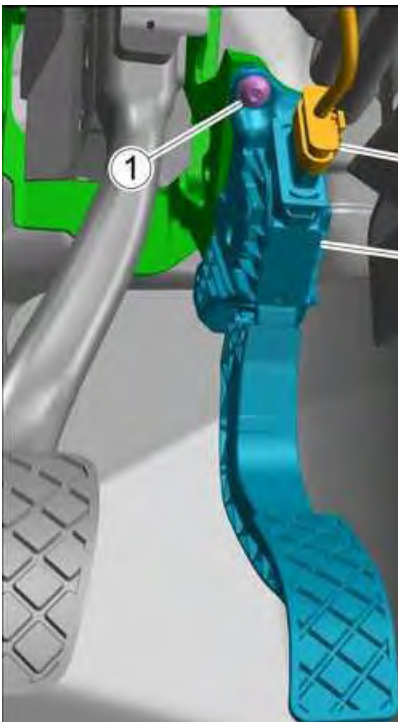

Figure 59
1. Check the security of the throttle pedal assembly fastener part number N10714801 (Figure59 point 1) the torque of the fastener is 8Nm